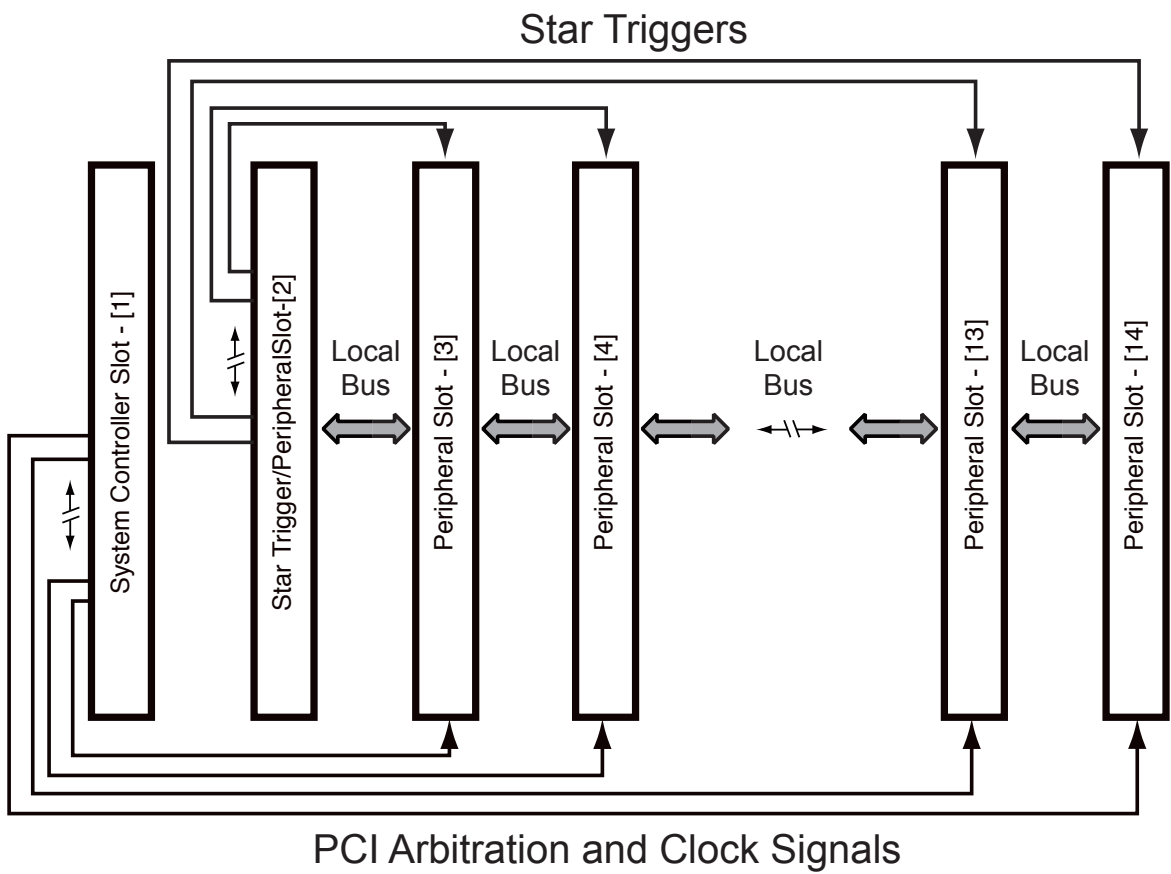

Figure 2.1 - PXI Local Bus and Star Trigger Routing
The Star Trigger (ST) slot is located at Slot 2. This slot has a dedicated trigger line between each peripheral slot (see Figure 2.1). This slot is intended for modules with Star Trigger functionality that can provide individual triggers to all other peripherals. However, if you do not require advanced trigger functionality, you can install any standard peripheral module into this slot. Peripheral Slots - there are seven peripheral slots including the Star Trigger controller slot. The Star Trigger Slot can also accept an external standard to replace the chassis reference clock, PXI_CLK10 supplied by the chassis.
The PXI backplane's local bus is a daisy-chained bus that connects each peripheral slot with its adjacent peripheral slots to the left and right, as shown in Figure 2.1.